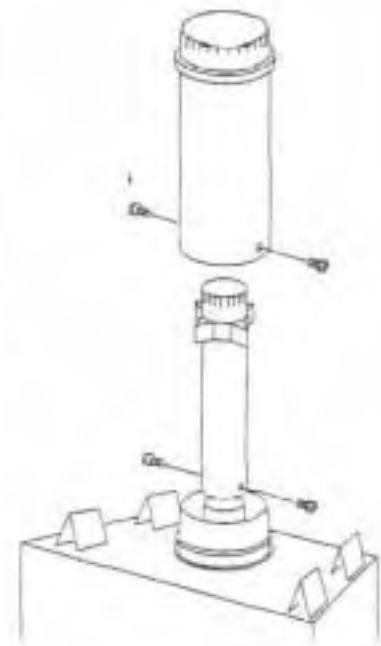

Figure 19
C. Next, slip the outer section over the inner and onto outer appliance collar, bottoming out at the bead. Make sure the crimped end of both inner and outer vent sections are the same height. Secure using two (2) sheet metal screws (Figure 19).